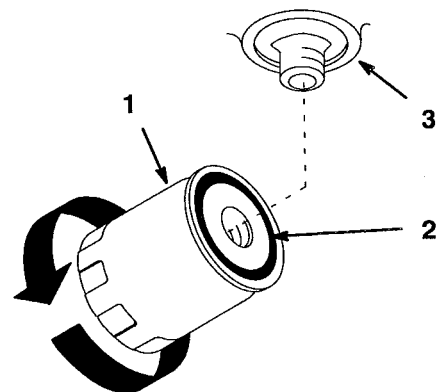

Figure 30
3. Apply a thin coat of new oil to the rubber gasket on the replacement filter (Fig. 30).
4. Install replacement hydraulic filter onto the filter adapter. Turn the oil filter clockwise until the rubber gasket contacts the filter adapter, then tighten the filter an additional 1/2 turn (Fig. 30).